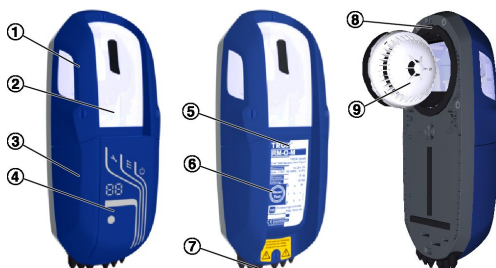

Fig. 4: RM-O-M with sensor head in air duct
- RM-O-M with sensor head in duct Fig. 4